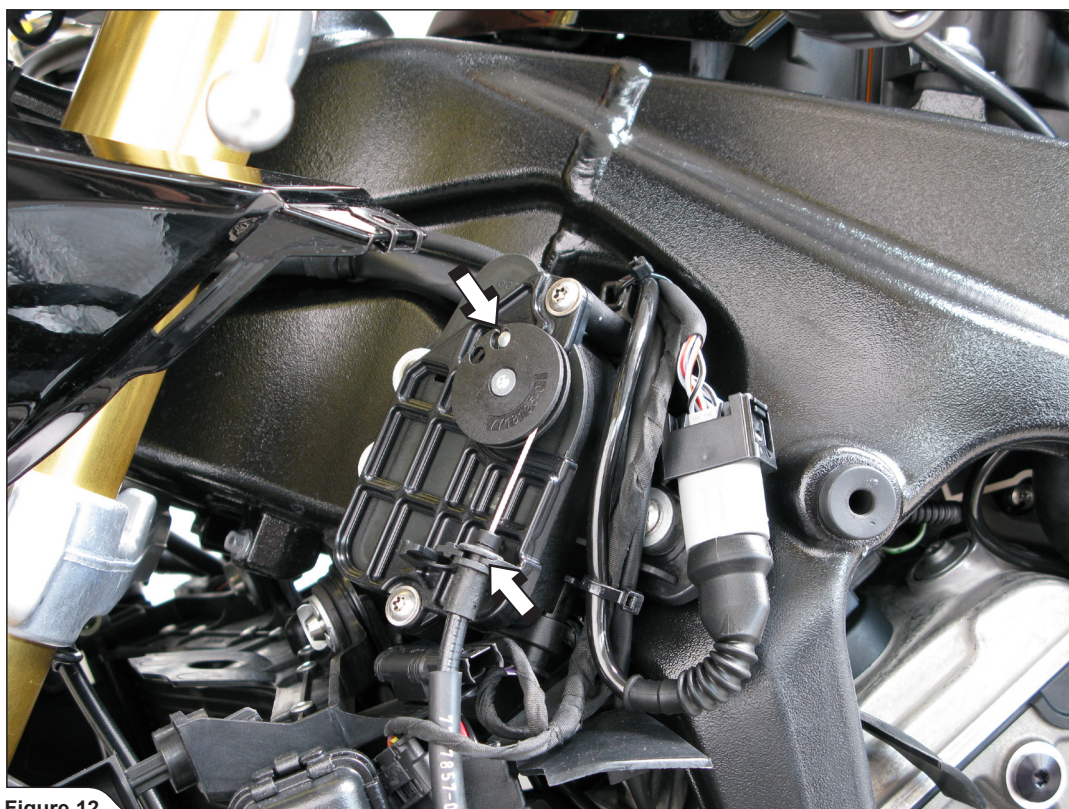

Figure 12
9. Remove the header tubes valve cable from servo motor (Figure 12).